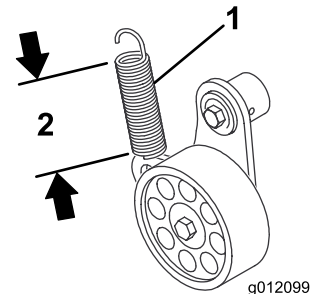
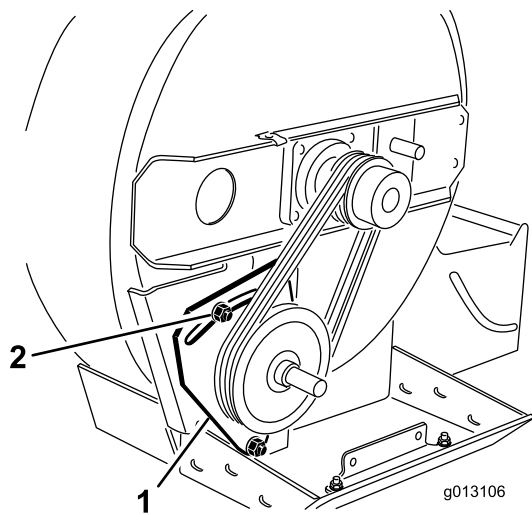

Figure 15
Figure 16
2. A new belt is properly tensioned when the idler spring body is extended to a length of 83 to 89 mm (3-1/4 to 3-1/2 inches) (Figure 15).
- Rotate the belt tensioner (Figure 15) until the idler spring body is extended to a length of 83 to 89 mm (3-1/4 to 3-1/2 inches) (Figure 16), then tighten the nut.